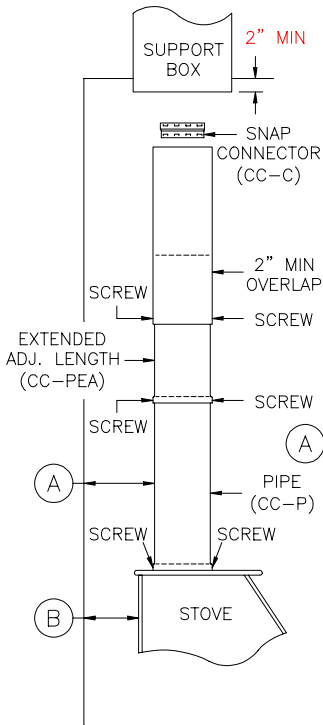
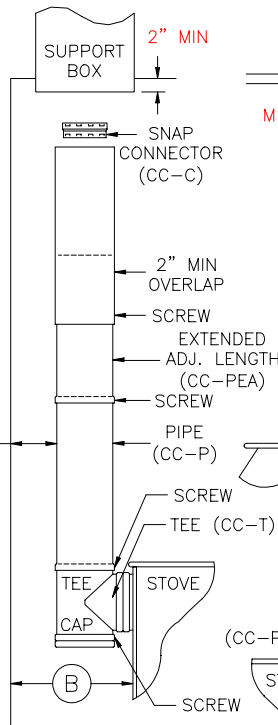

Figure 1
Figure 2
2. Install support box (Figures 1 & 2) or wall thimble (Figures 3 & 4) according to the installation instructions in your Dura-Plus or Dura-Chimney Kit. Note the suggestion regarding wall thimble installation under Step #4 — Through the Wall installations.
4. **Vertical Installations** — (Figures 1 & 2) — Join the pipe, adj. or rigid; insert onto connector, then lower to stove collar (Figure 1). For Figure 2, installations, install tee to stove collar by drilling at least 3, 1/8" holes and screw fastening the tee to the collar. Join the pipe lengths, insert into connector (CC-C), then lower to tee (CC-R). Through-The-Wall Installations — (Figure 3&4) — use the adj. lengths of pipe (CC-PEA) when doing a through-the-wall installation, it is readily adjustable to the height of the chimney thimble. Push the connector (CC-C) into the thimble, snap elbow or pipe onto connector, join the adjustable piece and extend to the tip of the stove or to another piece of pipe screwing adjustable pipe together after proper length has been determined.